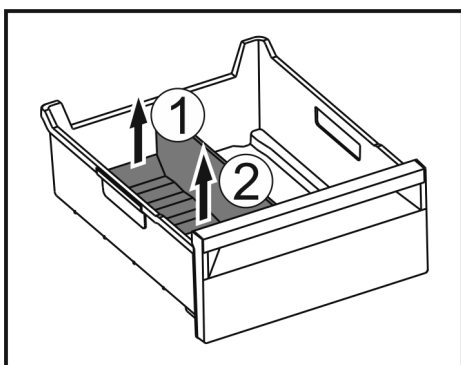

Fig. 166
- ▶ Lift the rear part of the ice compartment divider. Fig. 166 (1)
- ▶ Remove the ice compartment divider upwards. Fig. 166 (2)